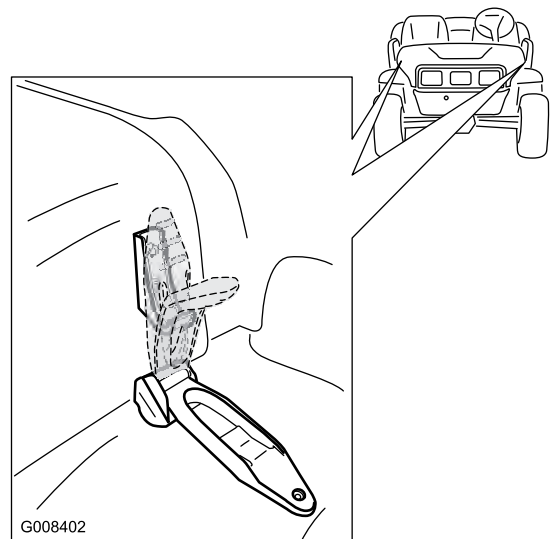

Figure 22
1. Release the rubber straps on both sides of the hood (Figure 22).